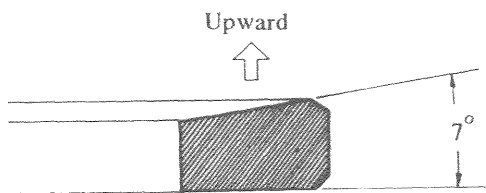

Fig. 7-3-4
1) Both the 1st and 2nd rings are of wedge type in their sectional views as illustrated in Fig. 7-3-4 and the ring grooves on piston are machined according to the shape of the rings. Therefore, the ring should be placed in proper direction otherwise the piston will not fit in the cylinder.